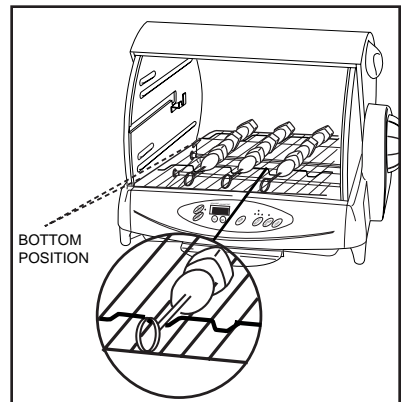

Figure 11
2. Hold Wire Rack upside down (so two cross wires are on top). Arrange Wire Rack so cross wire closest to end will go into the Rotisserie Oven first (it will be toward the back). Place Wire Rack into oven at **BOTTOM** position as shown in Figure 11. Be sure Rack is on both front and back parts of ledge.